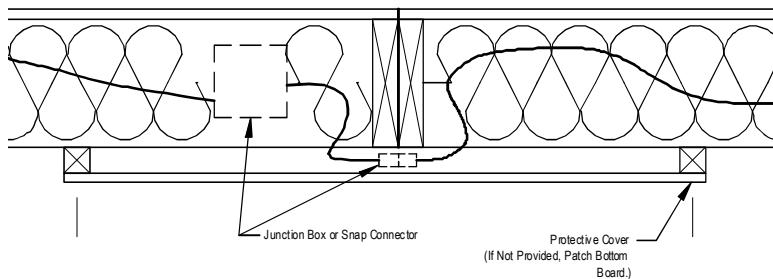

Figure 57. Floor electrical crossover wires with bumped-out access panel
- Route wires.** Pass the wires through predrilled holes or notches in the rim joist or if there is a single bumped-out access panel as in (**Figure 57**), then under the rim joists. If holes or notches have not been provided and there is no bumped-out access panel, drill maximum one-inch diameter hole(s) half-way up the rim joists on each home section, making sure the holes align and feed the wire through the hole.